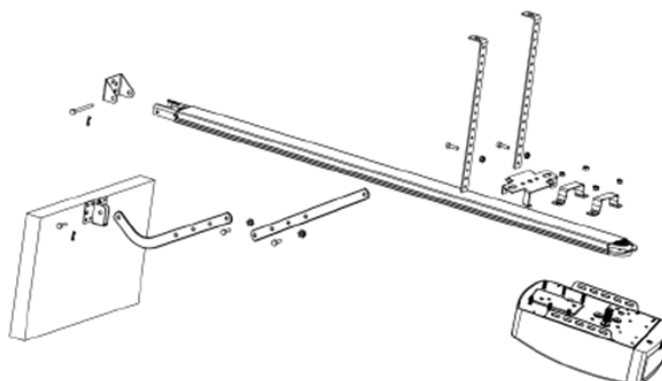

Figura 4
PASO 1 (Figura 4)
PASO 2 (Figura 4)
PASO 3 (Figura 4, Figura 5)
PASO 4 (Figura 4, Figura 6)